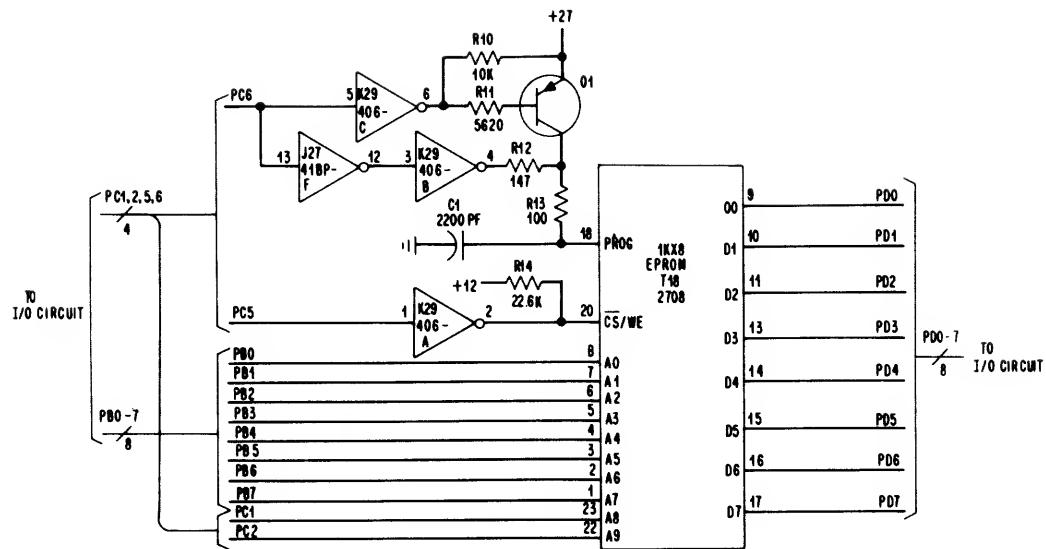

Figure 2-6. PROM Programmer Schematic Diagram
2.2.5 PROM Programmer (See Figure 2-6.)